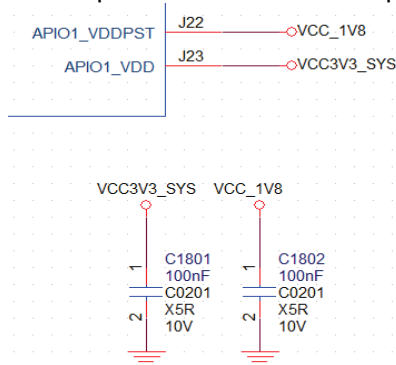

Figure 4-48 MAC Power Decoupling Capacitor
- The decoupling capacitor should be placed close to RK3399 power pin. Shown as Figure 4-48.
Rockchip had design 4 universal on-board antenna, which are ANT1227SD, ANT1227SS, ANT2885S, ANT4411D (Shown as Figure 4-48), suitable for different platforms and terminals. RK universal antennas have good performance and wide applicability; can make a flexible and rapid optimization of the adjustment according to the actual environment of PCB, which will greatly improve the work efficiency.